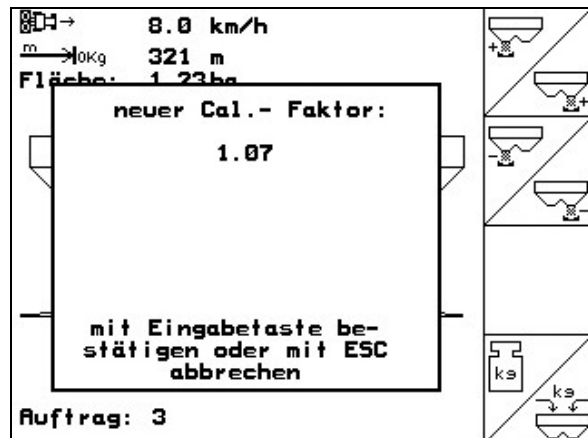

Fig. 12
7. The new calibration factor is displayed and confirmed with or rejected with (Fig. 12).